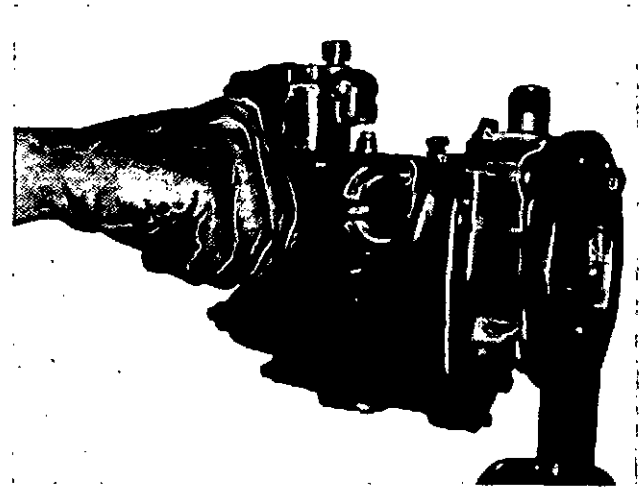

Fig. 1-10, (F5304). Remove the AFC barrel retaining ring.
5. Remove the retaining ring of the AFC barrel, Fig. 1-10.